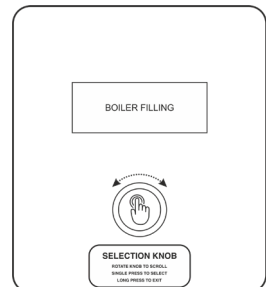

Fig. No. 19.3
- **BOILER FILLING** (Ref. Fig. No. 19.3)